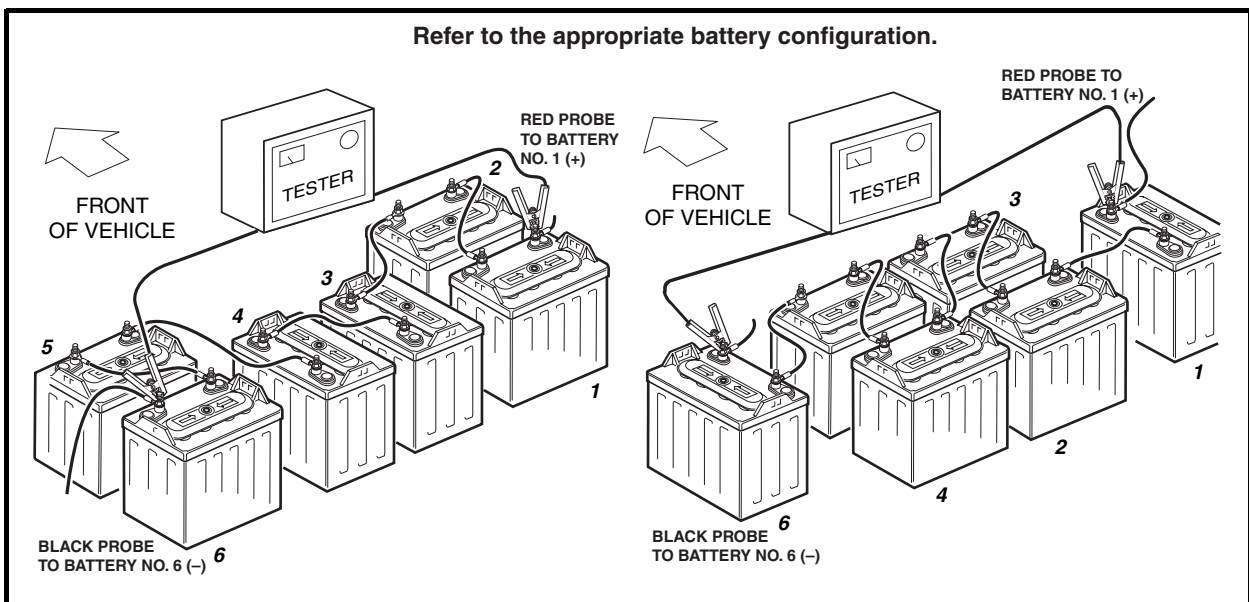

Figure 13-5 Battery Discharge Test
2. Connect the tester probes to the positive (+) post of battery no.1 and negative (-) post of battery no. 6 (Figure 13-5, Page 13-9).